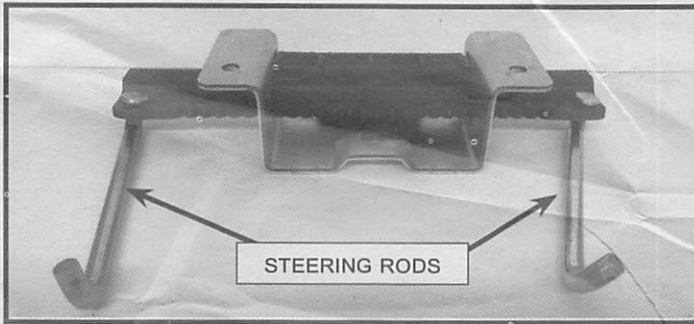

FIGURE 8
- Locate and reinstall both Left (Gold in color) and Right (Silver in color) Steering Rods into the Steering Rack. See Figure 8.